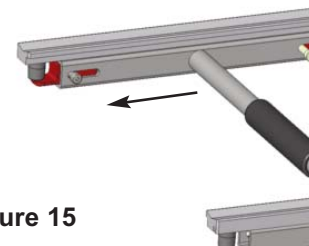
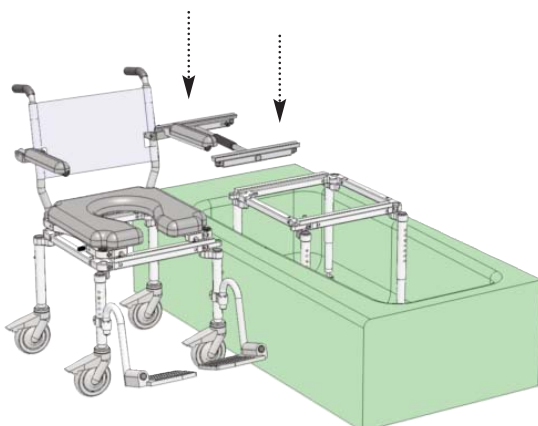

Figure 15
Figure 14
**E** Insert the connector bridge into the four eyelet holes (Two located on the roll-in section and two located on the tub section) - Refer to Figure 14. Switch the four shoulder screws to the lock position on the connector bridge (Refer to Figure 15).